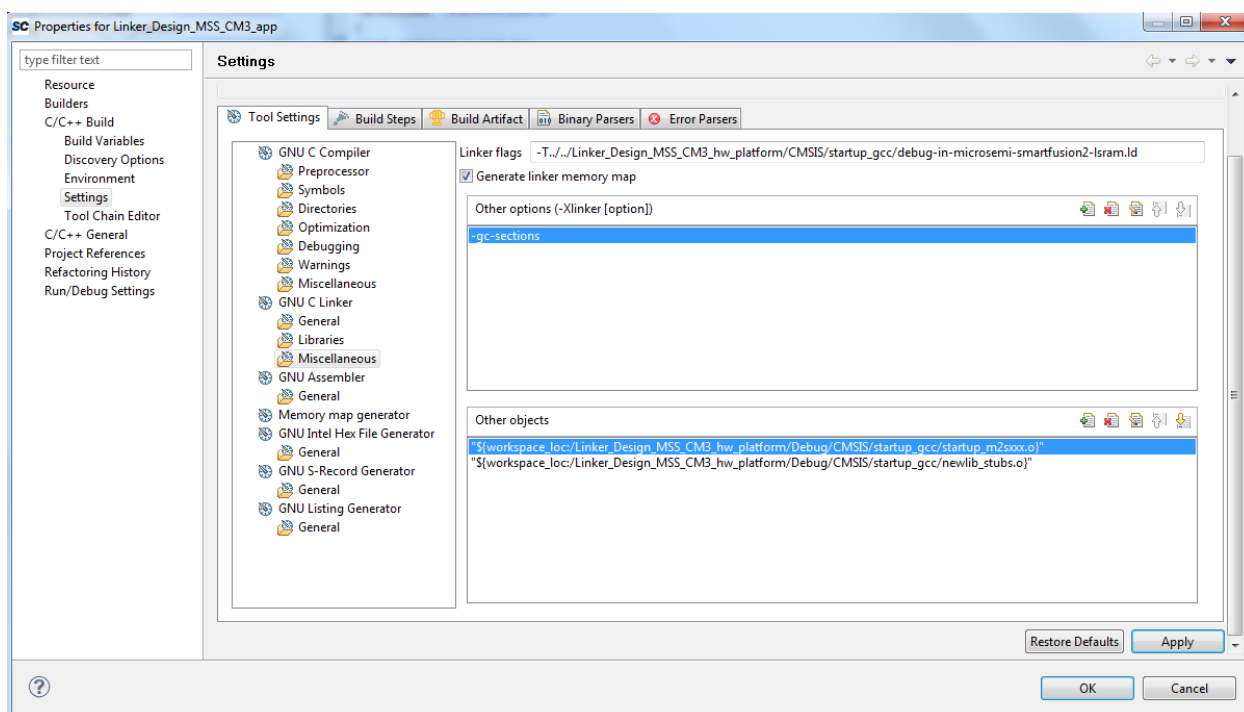

Figure 17 • Selecting Linker Script for Implementation1
1. To run implementation 1 that includes running only in LSRAM, select the linker script as shown in Figure 17